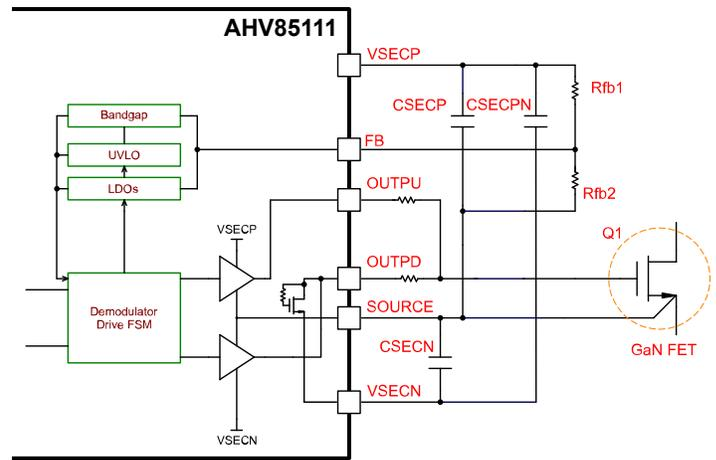

Figure 7: Rfb1 and Rfb2 used to set the desired VSECP-to-SOURCE positive bias rail regulation level
As shown in Figure 7, the feedback (FB) pin is used in conjunction with two resistors R_{FB1} and R_{FB2} to set the regulated output voltage between VSECP and SOURCE pins.